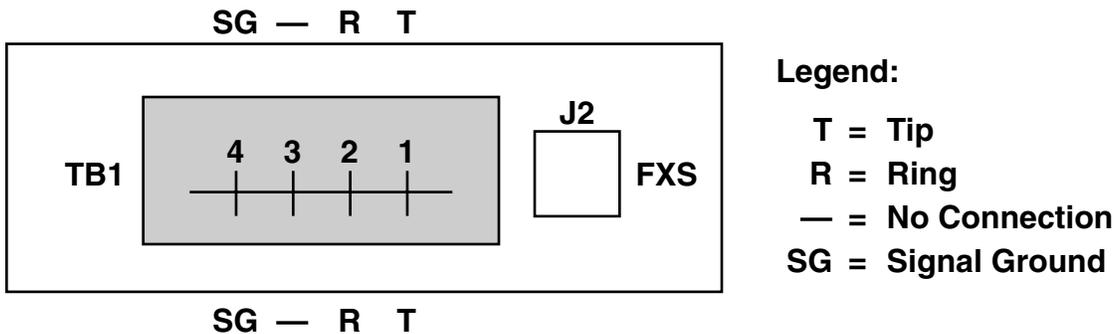

Figure A-3. Wiring of the Connectors on the Back Panel.
Connectors J2 and TB1 terminate the Tip (T) and Ring (R) leads in parallel, so that pins 2 and 3 of J2 are connected, respectively, to pins 1 and 2 of TB1 (see Figure A-3).